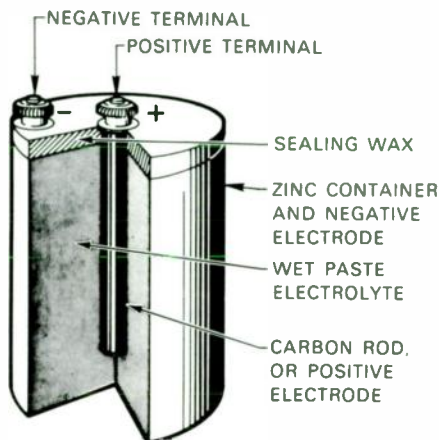

Figure 2 — Internal arrangement of a Leclanche dry cell.
In the familiar automobile storage battery, electrolyte is a liquid solution of water with acid. Popular dry cells (Leclanche) contain an alkaline electrolyte in the form of a wet paste (Fig. 2).
3. A container is used to house the chemicals and other parts of a cell. Case forms vary widely among different manufacturers and for different type cells. They are made from many substances such as glass, metal, plastic, etc. In the popular Leclanche dry cell, a zinc container also serves as the negative electrode (Fig. 2).